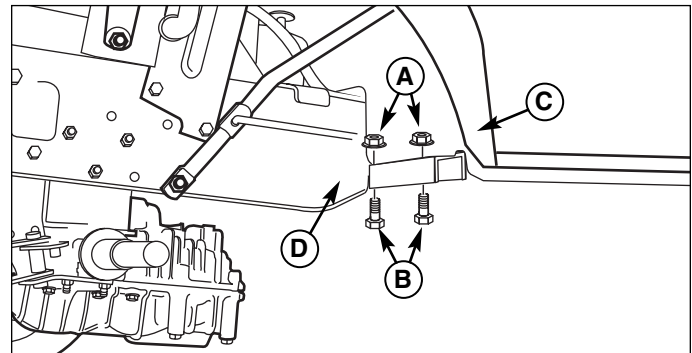

Figure 4. Capscrew Removal
2. Remove nuts (A, Figure 4) and capscrews (B) which hold the right rear seat deck (C) to the frame (D). Discard capscrews.